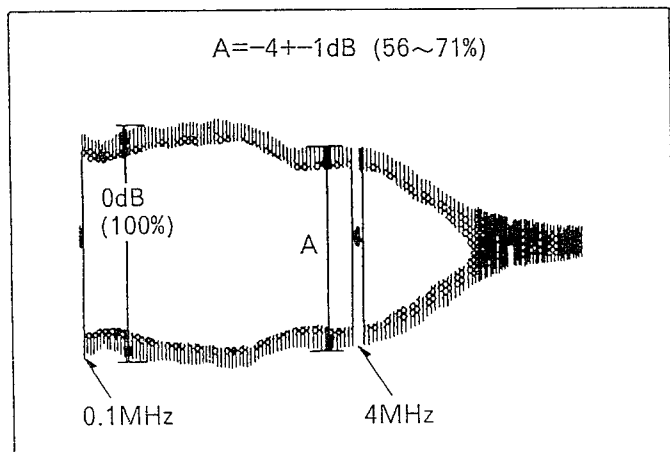

Fig. V8
- (1) Connect the E.V.F. unit.
(2) Aim the camera at colour bar.
(3) Place the unit at OSD mode.
(4) Adjust the C6007 so that indication on the monitor is located as shown in Fig.V8.